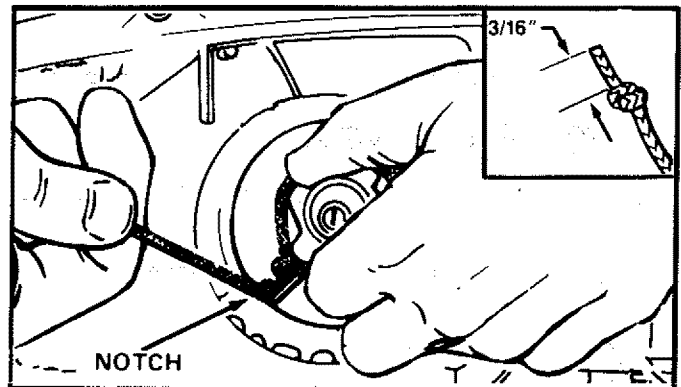

Figure 12
7. Insert one end of the rope through the handle and secure with a knot. Leave 3/16" pigtail behind knot. Figure 12 (inset).
14. Hold the 12 inch slack in the rope and catch rope in pulley notch. Figure 12.